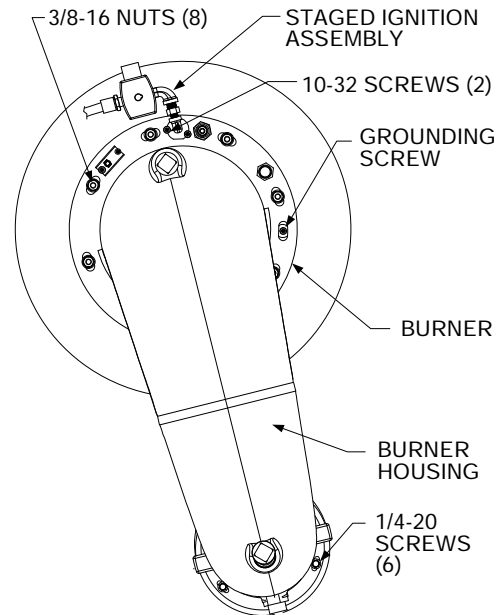

Figure 7-3
12. Remove the two (2) 10-32 screws securing the gas injector to the burner. Separate the gas injector and gasket from the burner.
13. Disconnect the burner housing from the blower by removing the six (6) 1/4-20 screws using a 3/8" wrench.
14. Remove the eight (8) 3/8-16 nuts from the burner flange (Figure 7-3) using a 9/16" wrench.